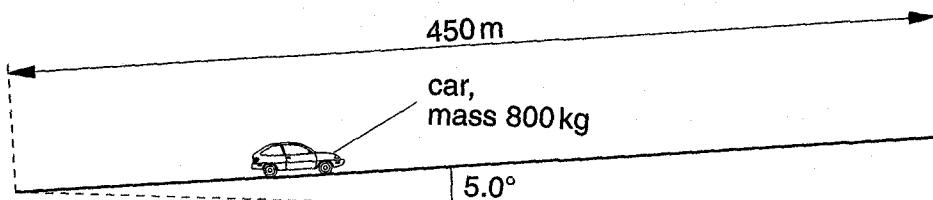

Fig. 2.1
- (b) A car starts from rest and travels upwards along a straight road inclined at an angle of 5.0° to the horizontal, as illustrated in Fig. 2.1.